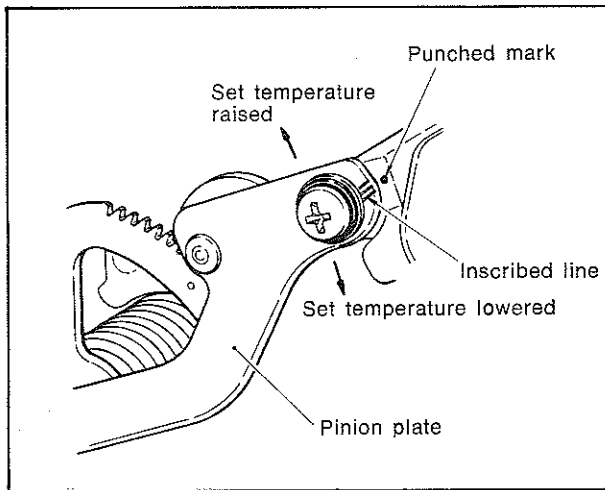

Fig. 28—Choke valve adjustment
- (1) The choke pinion plate mating marks should be aligned as shown in Fig. 28.
- (2) Check the gap between the choke valve and bore, it should be 0-0,5 mm (0-0.020").
- (3) If the gap requires adjustment loosen the screw securing the choke pinion plate and raise or lower the plate to achieve the specified gap, re-tighten the screw.